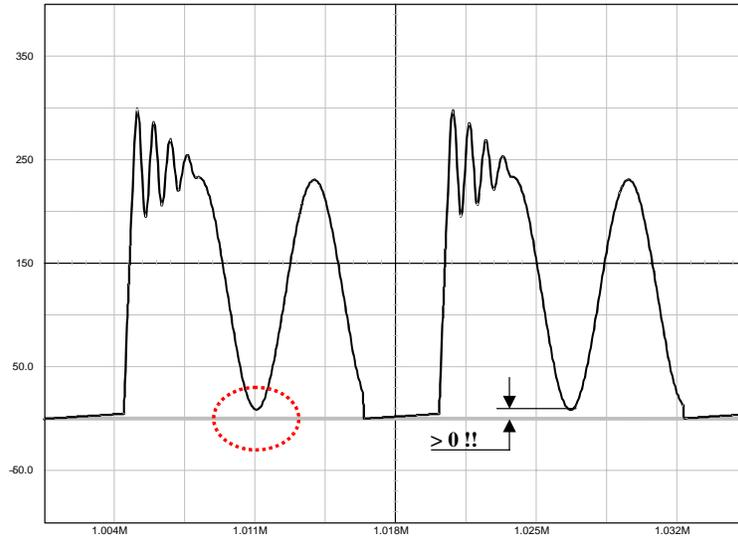

**Figure 25. A Possible PCB Arrangement to Reduce the Thermal Resistance Junction-to-Ambient**
which gives around 1.0 W for an ambient of 50°C. The losses inherent to the MOSFET Rds(ON) can be evaluated using the following formula: Pmos =  $\frac{1}{3} \cdot I_p^2 \cdot d \cdot R_{ds(ON)}$  (eq. 13), where Ip is the worse case peak current (at the lowest line input), d is the converter operating duty-cycle and Rds(ON), the MOSFET resistance for Tj = 100°C. This formula is only valid for Discontinuous Conduction Mode (DCM) operation where the turn-on losses are null (the primary current is zero when you restart the MOSFET). Figure 25 gives a possible layout to help dropping the thermal resistance. When measured on a 35 μm (1 oz.) copper thickness PCB, we obtained a thermal resistance of 75°C/W.